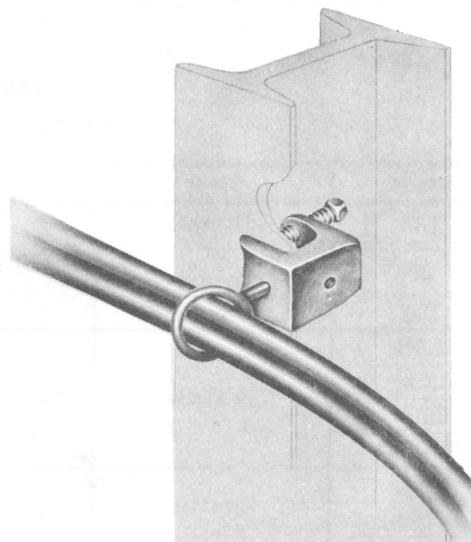

Fig. 7 - B Insulator Support
3.08 *B insulator support* (Fig. 7)